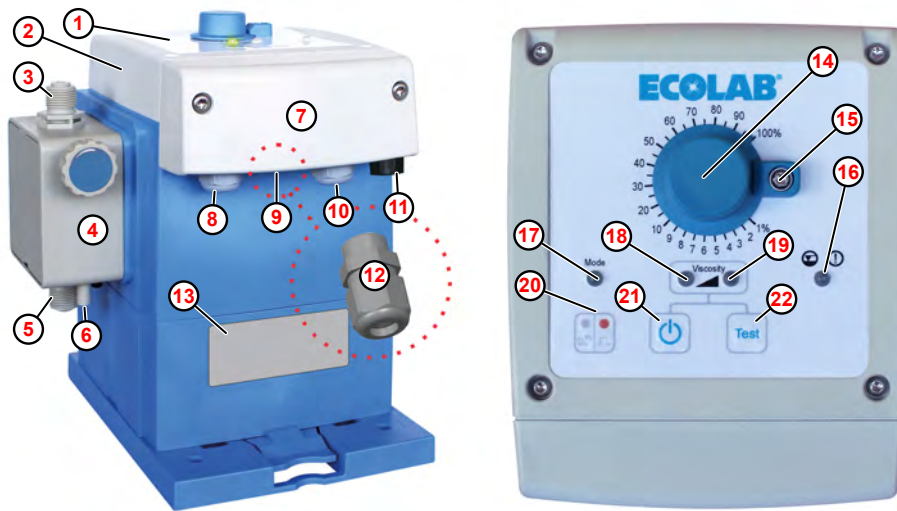

Fig. 1: Layout and control elements 'EcoUp'
For the cable connection of the alarm signal, the package of the pump contains a corresponding cable gland M12 x 1.5 ( Fig. 1 , ⑫ ).